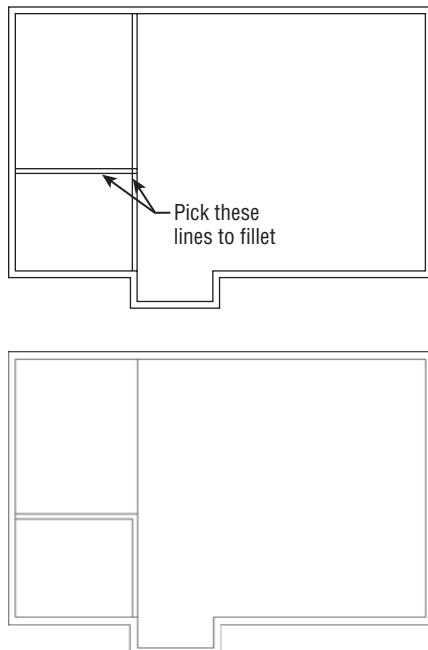

FIGURE 4.19 Selecting the first two lines to fillet (top) and the result of the fillet (bottom)
4. Restart the FILLET command. Press and hold the Shift key as you click the two interior wall lines shown in the top of Figure 4.19. The lines are filleted, and the results will look like the bottom of Figure 4.19.